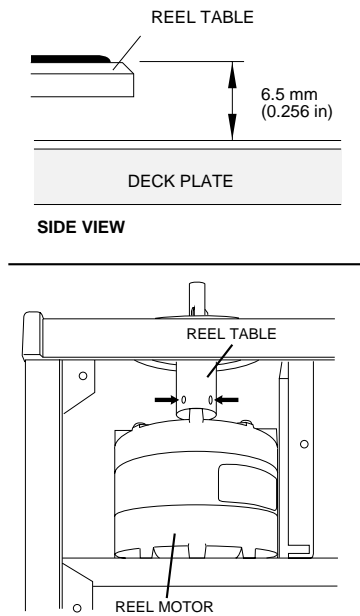

Figure 5-5
1. Measure the distance from the top surface of the deck plate to the metal surface of the reel table. If the distance is 6.5 mm (0.256 in), then no adjustment is required. Refer to **Figure 5-5**.